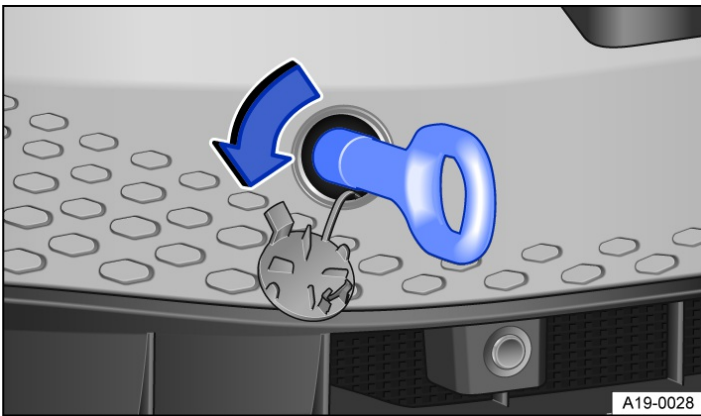

Fig. 2 In the front bumper on the right: screwing in the towing eye.
- Turn the towing eye anti-clockwise into the threaded hole and tighten as far as possible → Fig. 2 , → ①. Use a suitable object to screw the towing eye fully and securely into the mounting.